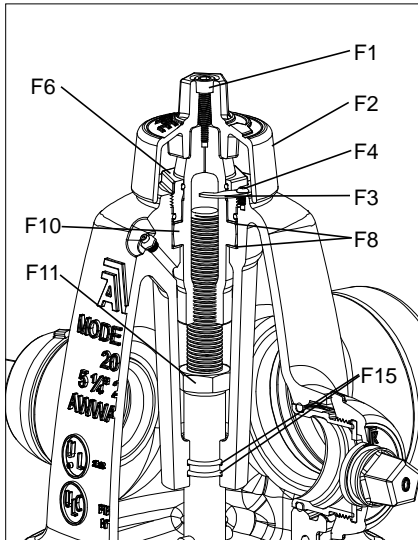

Fig. 7A
1. Remove the Weathershield Bolt (F1) with a 5/16", (8mm) hexagon key. Lift off the Weathershield (F2). (See Fig. 7A)
3. Using the AVK operating wrench, or a large adjustable wrench, unscrew the Thrust Nut (F6) counterclockwise. (See Fig. 7A & 7B)
7. Place one Anti Friction Washer (F8), on the top and bottom of the Operating Nut (F10) thrust collar. (See Fig. 7A)
10. Place one Anti Friction Washer (F8), on the top and bottom of the Operating Nut (F10) thrust collar. (See Fig. 7A)